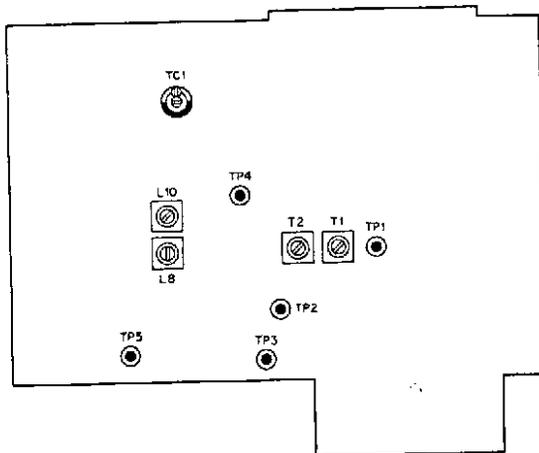

Fig. 33 Counter mixer unit (DG-1: Option)
- 2) Adjust the trimmer TC1 in the counter mix unit for  $1 \text{ MHz} \pm 5 \text{ Hz}$  (refer to Fig. 33).
- 2) Connect RF VTVM to TP2 in the counter-mixer unit (X48-1150-00) and adjust T1 and T2 in the same unit until the peak value is obtained (output is approx. 0.12 to 0.2V) (refer to Fig. 33).